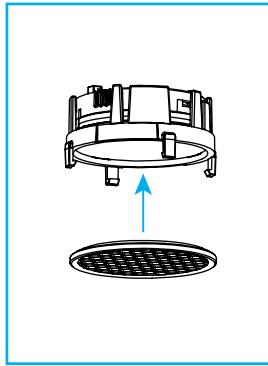
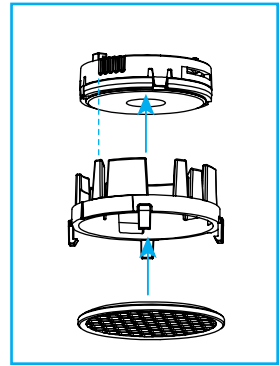

Fig.35
Fig.36
C. To install honeycomb louver, raise it up and clip it into the holder (*Fig.35*). The holder is not installed on the optic unless fitting is originally specified with the adjustable zoom optic or honeycomb louver. Holder ships with replacement honeycomb louvers and is installed by carefully pushing the holder up and clipping it onto the optic (*Fig.36*).